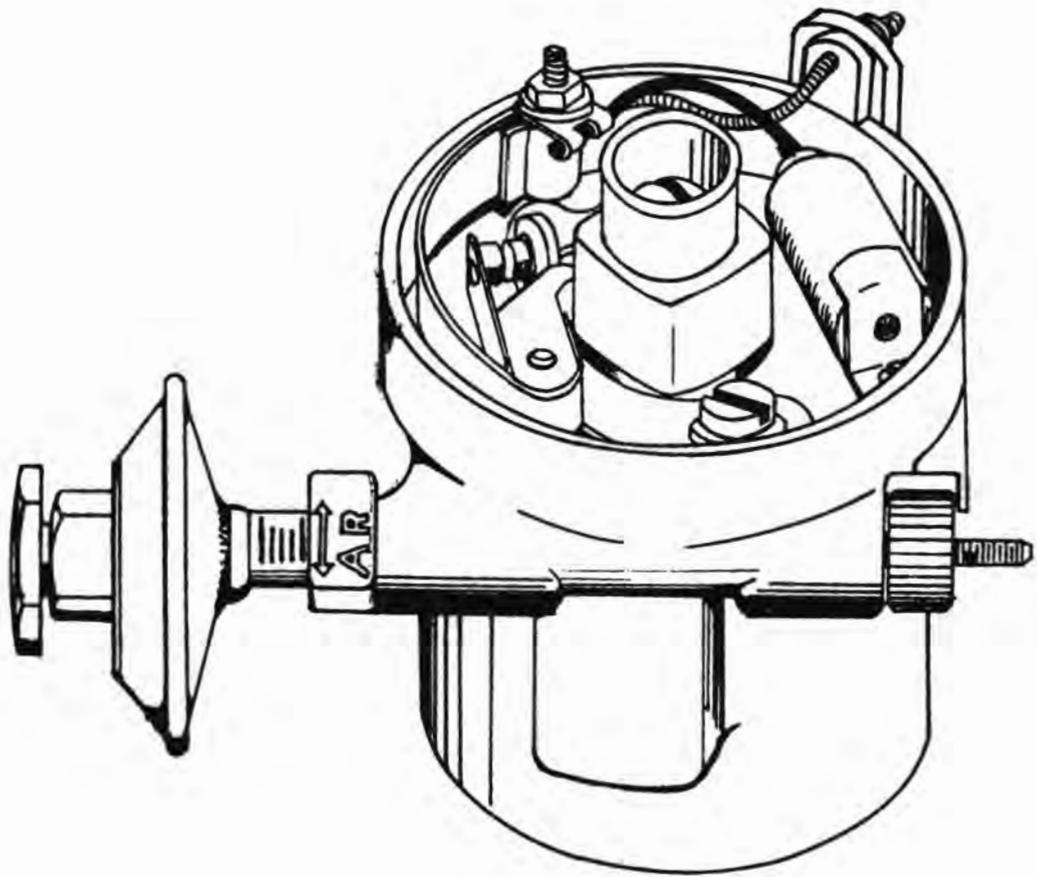

FIG. 26
2. Adjust the Advance-Retard knob on the distributor (Figure 26) until the contact points are just beginning to open. When this condition has been achieved, the ignition is then statically timed.